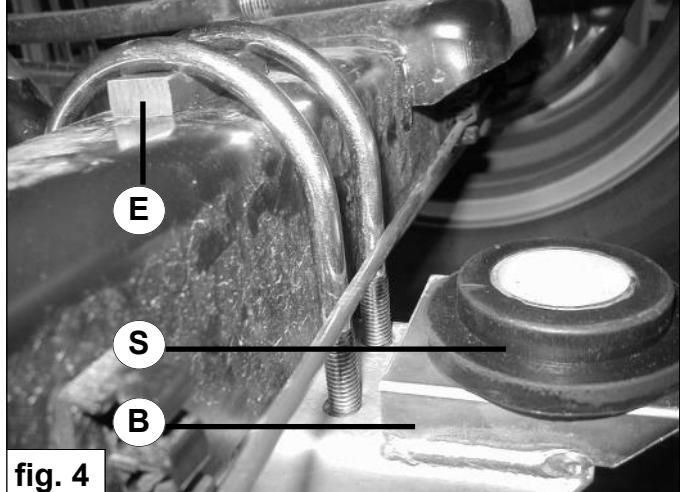

fig. 4
5. Fit the lower bracket **B** to the axel. Take care that it is mounted straight under the upper bracket. It could be necessary to turn the lower shock absorber bolt. Put in case of a square axel the strips **E** under the U-bolts on top of the axle. Tighten the U-bolts with **25 Nm**. See fig. 4.
6. Fit the rubbers **S** with the large diameter to the Lower bracket **B**. See fig. 4.